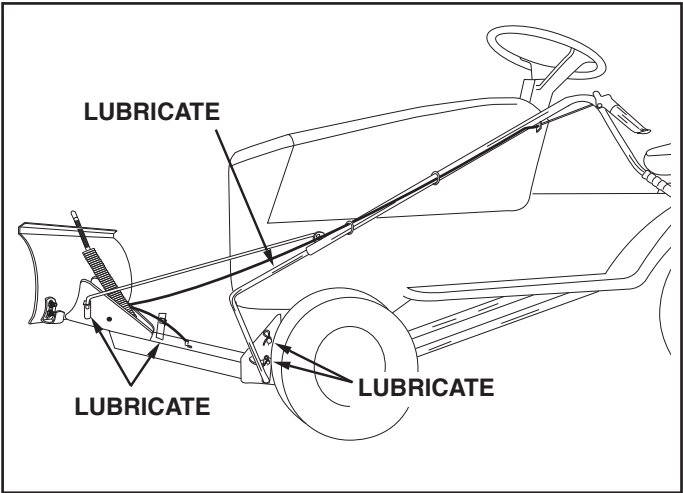

FIGURE 30
- Lubricate all pivot points and all points shown in figure 30, page 15 in the maintenance section.